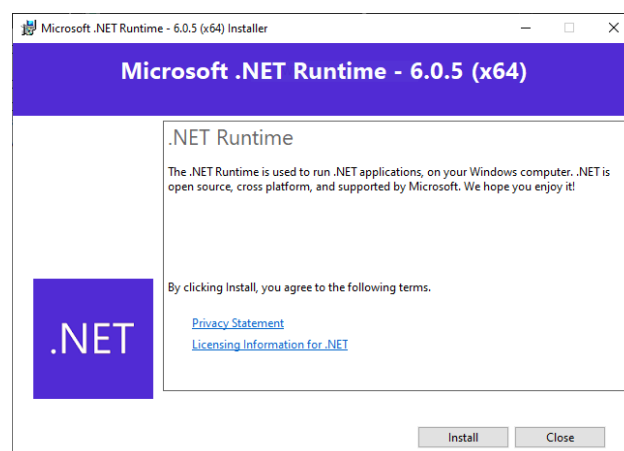
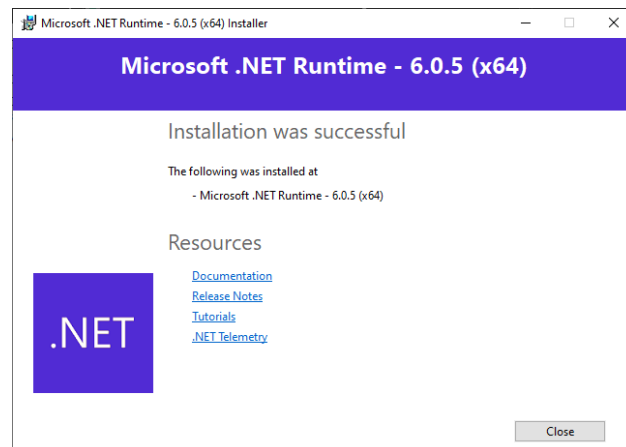

Figure 10: .NET runtime installation window.
Figure 11: .NET runtime successful installation window.
6. (Optional) In case the .NET runtime needs to be installed, click *Install* in the .NET runtime installation window (Fig.10). In case of successful installation, the windows shown in Fig.11 will appear.